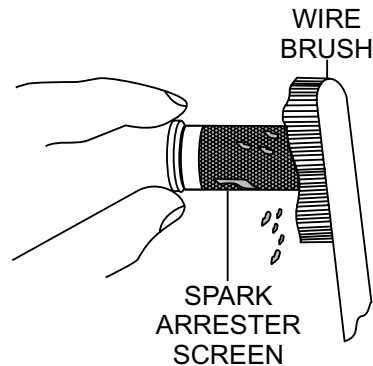

Figure 23. Cleaning The Spark Arrester
4. Carefully remove carbon deposits from the spark arrester screen (Figure 23) with a wire brush.